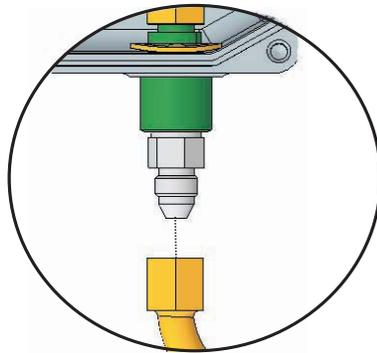

Figure 5-2. High-Pressure Nitrogen Tubing Location, Close Up
1. Disconnect the high-pressure nitrogen tubing from the Universal Control Head (see Figure 5-2).